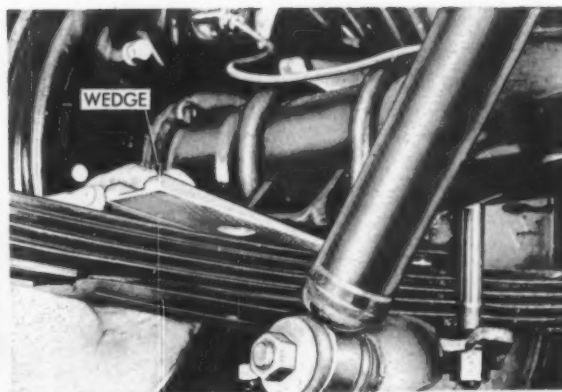

Fig. 9—Installing tapered wedges.
4.—Level the bubble and record the reading of angularity. With the car level, the differential carrier housing should incline down slightly. If the housing is level or elevated, add tapered shims between the rear springs and the differential housing spring plates to obtain a slight downward angle (Fig. 9). Recheck angularity.
6.—Add the readings of the carrier housing and the propeller shaft. They should total approximately 2°. Adjust to this total by adding or subtracting various thickness shims (Fig. 9).